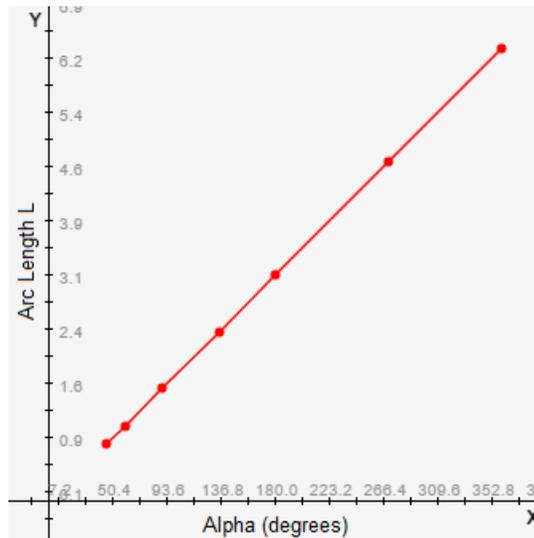

Figure3: Arc length (L) vs Angle subtended at the center (alpha)
KeYTuner uses the equation described in (1) to calculate the fundamental frequency (1st harmonic) of the wave generated when a guitar string is struck. The generated frequency is compared against the thresholds in Table 1. To assume that the string is always too slack is a reasonable assumption since all tuning techniques involve slackening the string first. The tuning peg is then rotated at an even rate to shorten the length of the string until the fundamental frequency of its standing wave equals the threshold. Figure 3 describes the relationship between length of an arc and the angle subtended by it.